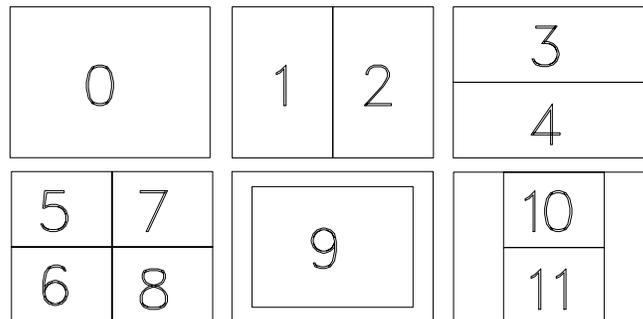

Figure 2.1: The pre-defined PHYSICA windows in landscape orientation
Windows are chosen with the WINDOW command. There are twelve (12) pre-defined windows, see Figures 2.1 and 2.2. Window zero is the default window and is the full page. It is a simple matter to